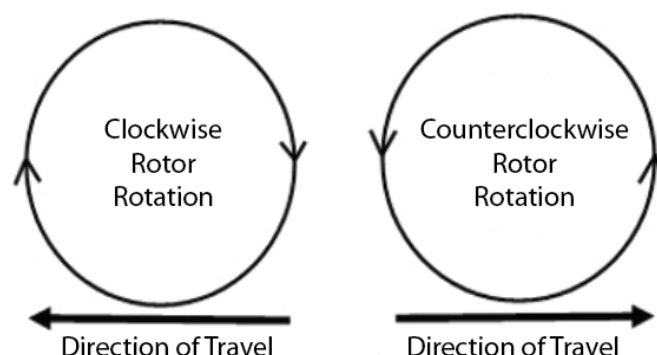

Figure 4-5. Rotor Rotation Direction
- A. Ensure the rotor is spinning smoothly and rotating in the correct direction, as shown in Figure 4-5.